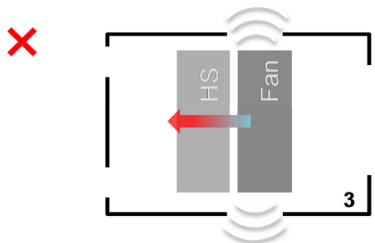

Figure 21. Design guidelines for active cooling solutions.
- Unnecessary openings near the fan in the luminaire housing (Figure 21) should be avoided in order to help contain any noise from the fan.